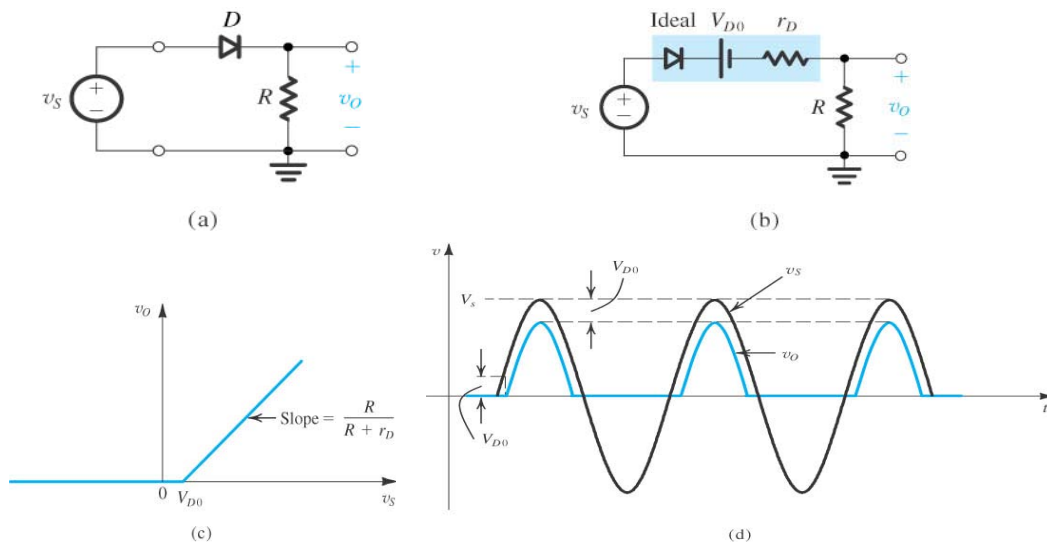

Figure 5.21: Circuit of half-wave rectifier.
- Figure 5.21 shows an example of half-wave rectifier.